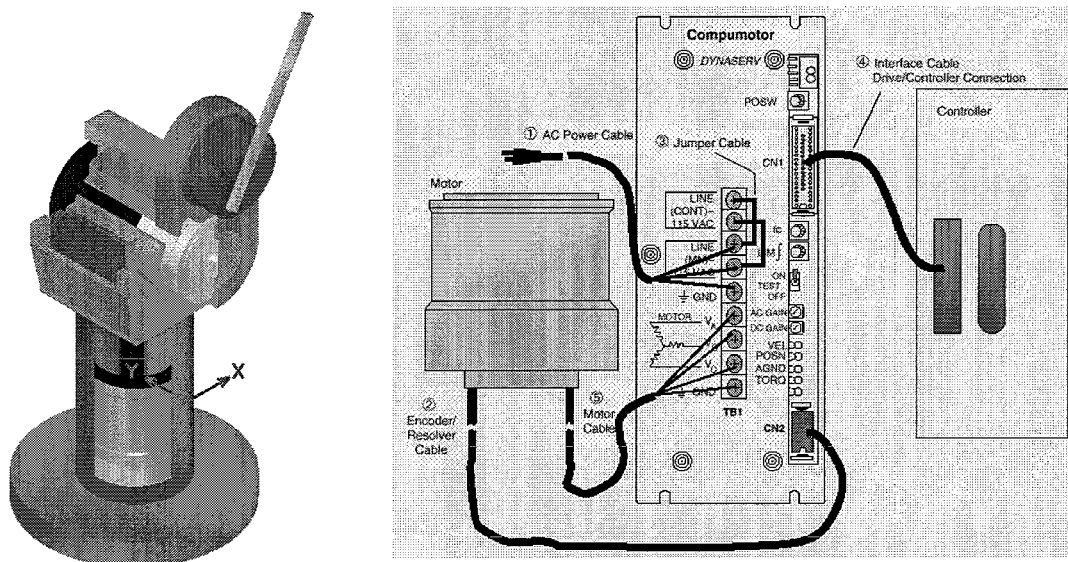
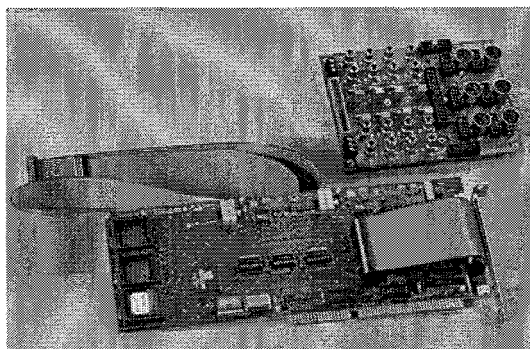

Figure 2.1: On the left, manipulator frame (servos, sliprings, and other frame parts); and on the right, the connections between one *Dynaserv* motor-driver pair.
Figure 2.3: MultiQ plug-in board, placed inside the PC (bottom), and terminal board (top right)
The RRR-robot is actuated by three brushless direct-drive servos with maximum torques of 60, 30 and 15 [Nm]. Each motor has its own driver to generate the driving stator phases (both are shown in Fig. 2.1 on the right). The so-called *Dynaserv* servo is of an outer-rotor type with internal encoder, and internal bearings, providing direct coupling between the outside housing and the attached link. Basically, the robot is constructed by simply combining these servos, i.e., joints and the links in a chain structure.
To facilitate unconstrained rotation of all joints – the connection to and from the DM30 and DM15, shown in Fig. 2.1 by cable ② and ⑤ – are implemented using (power and signal) sliprings. The DM60 is connected directly from the base.
Servos, sliprings, and other frame parts (e.g., links) together constitute the *Manipulator frame* (shown in Fig. 2.1 on the left). The assembly of the manipulator frame, and all required wiring is described in Chapter 3.
In Chapter 5, the *Control system* is addressed. A PC plug-in control board, the MultiQ (Fig. 2.3), is used to communicate with the motor drivers, e.g., read-in the output of the encoders, and apply the torque command voltage. The terminal board of the MultiQ is placed inside a casing (the "controller" in Fig. 2.1), and connected by a 50-pole connection (cable ④) to each driver.